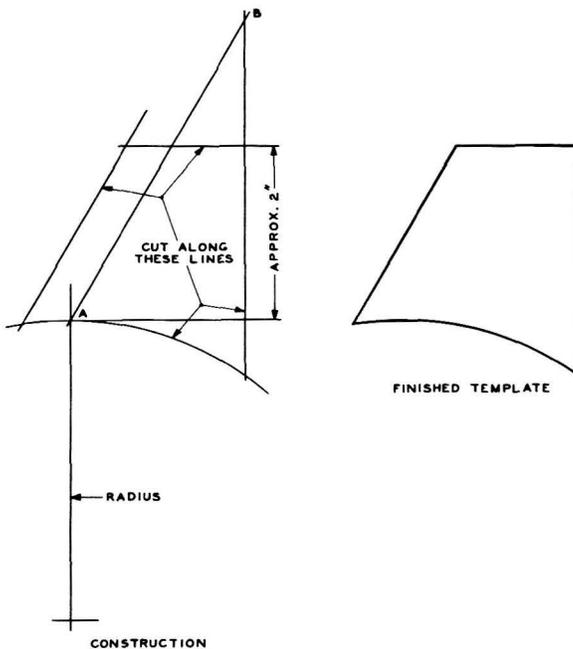

Fig. 6 - Template for Setting Baylis-type Brush Holder
(2) To adjust the brush-holder clearance in the largest size sets, loosen the hexagonal nuts holding the brush-holder stud in place in the brush-holder yoke. Slide the stud in the slotted jaw of the yoke as found necessary. Inasmuch as the brush angle on these sets is very critical, any adjustment of the brush-holder clearance should be made by sliding the brush stud up or down in the slots in place of turning the brush holders on the studs or turning the studs. In adjusting the clearance it is desirable to work toward the minimum limit.
(3) To set a Baylis-type brush holder at the correct angle, cut a template, proceeding as follows: Reproduce Fig. 6 on a piece of stiff cardboard, making the radius of the arc equal to the radius of the commutator. The radius is one-half of the diameter which may be obtained by measurement. Draw a radius and where it crosses the arc (point A) draw a line at a right angle to it. This will be tangent to the arc. From point A measure 2" along this line and draw another line at a right angle. From point A measure 4" to the last line drawn and mark the point B. A line drawn between A and B will be at an angle of 60 degrees to the tangent. Draw another line parallel to and to the left of line A-B, at a distance from it equal to one-half the thickness of the brush. Cut the template as shown and, in addition, cut a narrow opening upward from the curved edge, to permit the template to fit down over the brush guard. Loosen the set screw which holds the brush holder to its stud, place the template against the commutator surface and the slide surface of the brush holder, and rotate the holder to obtain the required angle. Tighten the set screw firmly before leaving.
(4) Remove the brushes from their holders and wipe them with a clean, hard nonlinting cloth. Wipe the holders. If brushes bind in their holders after cleaning, rub the edges gently with sandpaper. Replace the brushes in the same holders and in the same positions in the holders as they were before